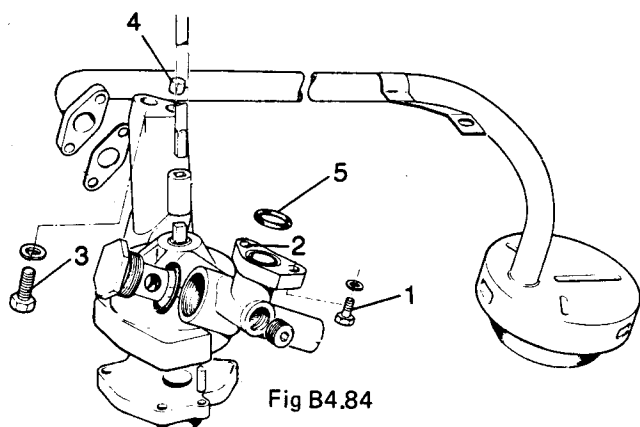

Fig B4.84
- (2) Refer to Fig B4.84. Remove the bolt (1) clamping the oil pump outlet sealing ring flange to the crankcase. Left-hand side of the engine. Note that hole (2) is an alternative mounting used in early models. It is not used on this model.
- (3) Remove the bolt (3) securing the oil pump to the crankcase. Right-hand side of the engine.
- (4) Lift the oil pump assembly off the locating dowels (4) and recover the outlet sealing ring (5).
2. To replace the oil pump: (Fig B4.84 still applies).